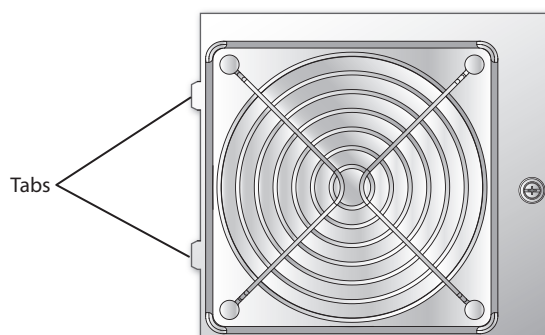
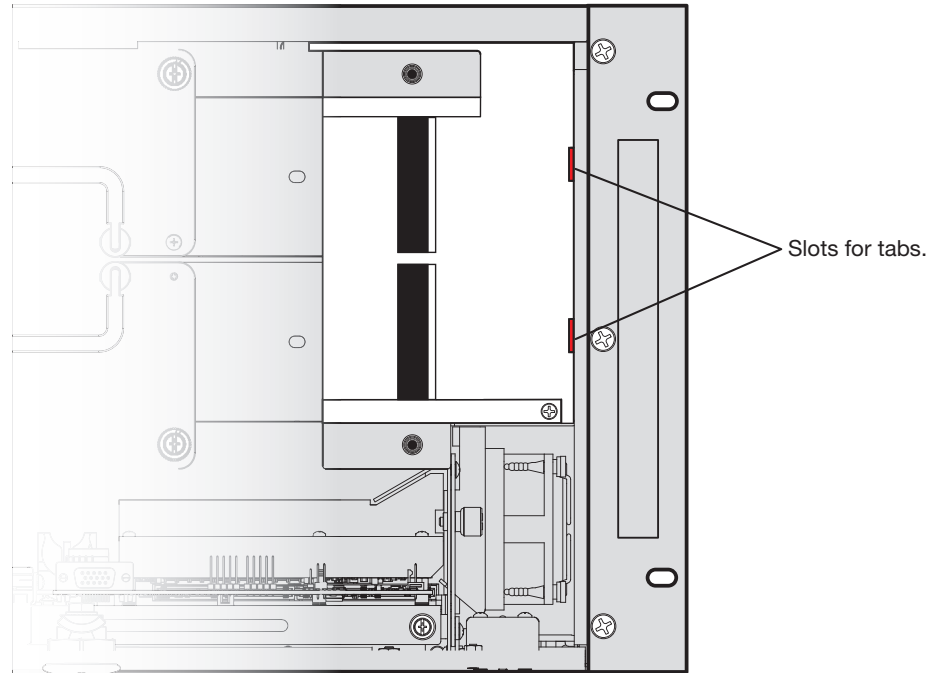

Figure 107. Tabs on the Front Fan
Figure 108. Slots for Tabs in the Back of the Fan Compartment
5. The replacement fan has two tabs on the back (see figure 107). These tabs fit into two slots in the back of the fan compartment of the chassis (see figure 108 on the next page).
Align the new fan with the right wall of the chassis, the tabs facing toward the back and the thumbscrew and cables facing outward, toward you (see figure 108).